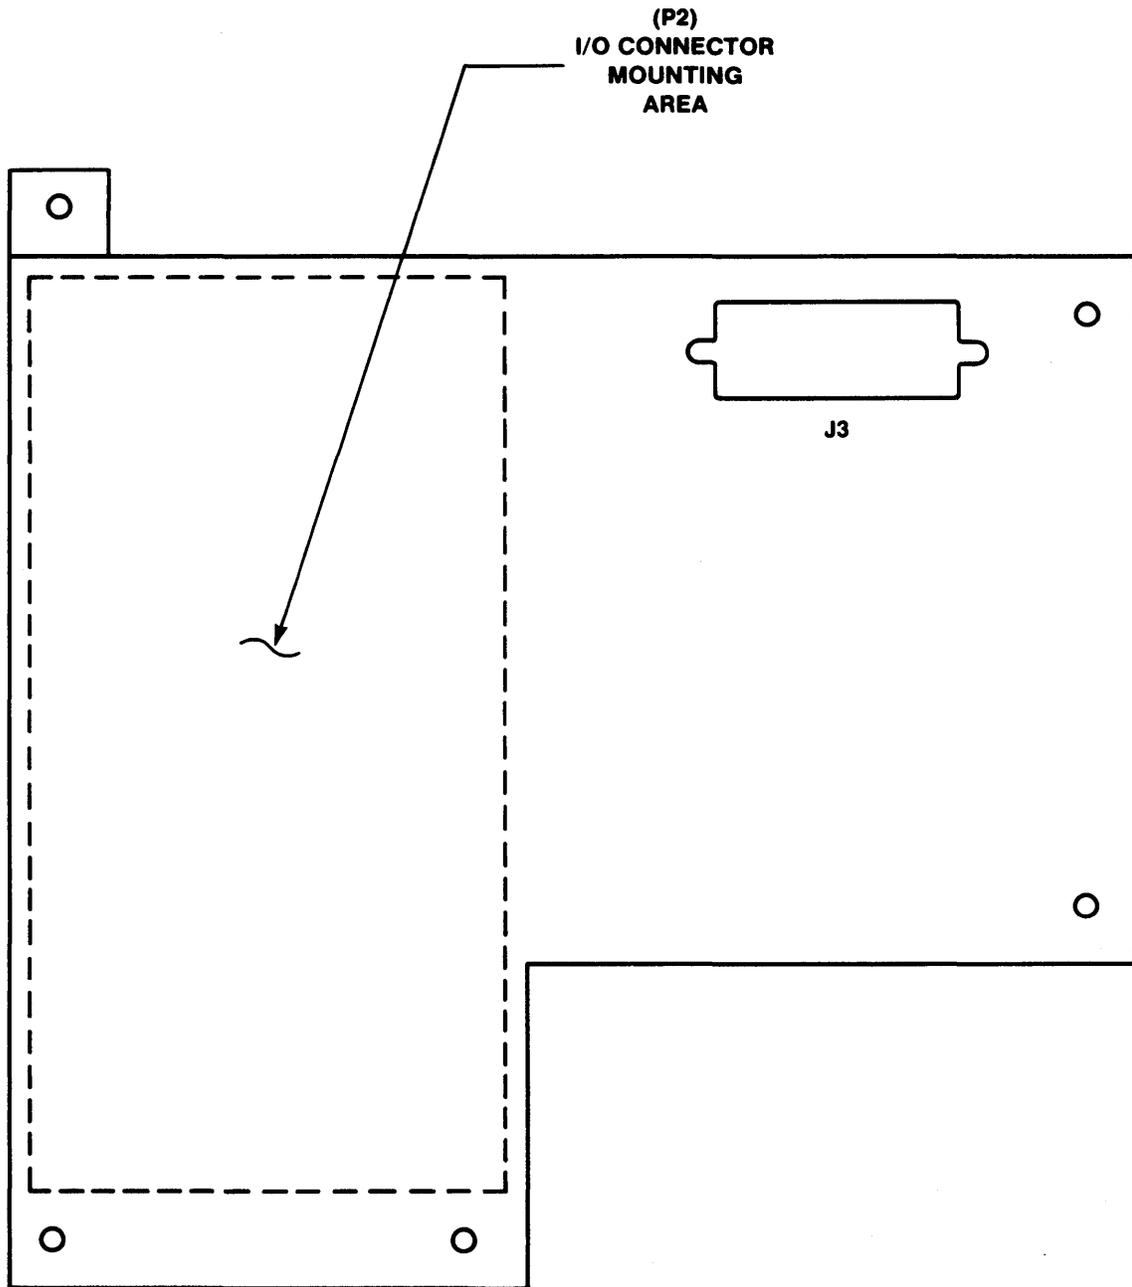
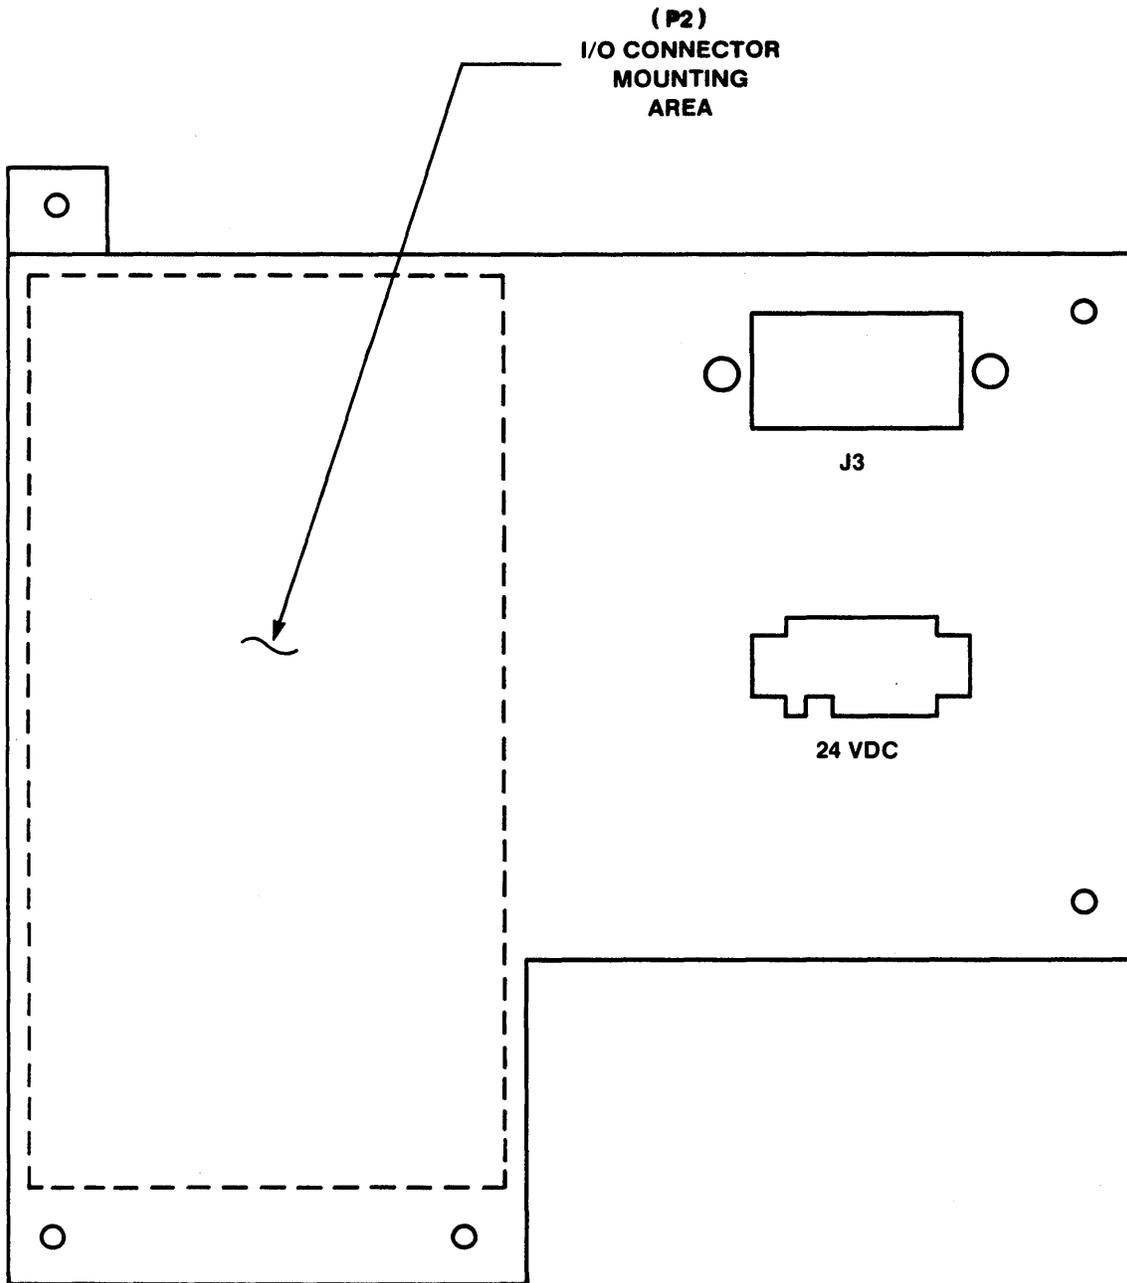

FIGURE 4-7. Present Production Control Unit Chassis I/O Panel Templet
FIGURE 4-8. First Production Control Unit Chassis I/O Panel Templet
The control unit chassis rear I/O panel is now removed to mount the peripheral connector end of the I/O cable assembly. Two types of I/O panels are utilized in the production of the VME/10. The first type, as illustrated in Figure 4-7, is used on present production control unit chassis. Figure 4-8 illustrates the second type which is used on first production control unit chassis. The I/O panel is removed as follows:
- d. Install peripheral connector end of the I/O cable assembly to chassis I/O panel. Refer to Figures 4-7 or 4-8 for applicable I/O panel templet.